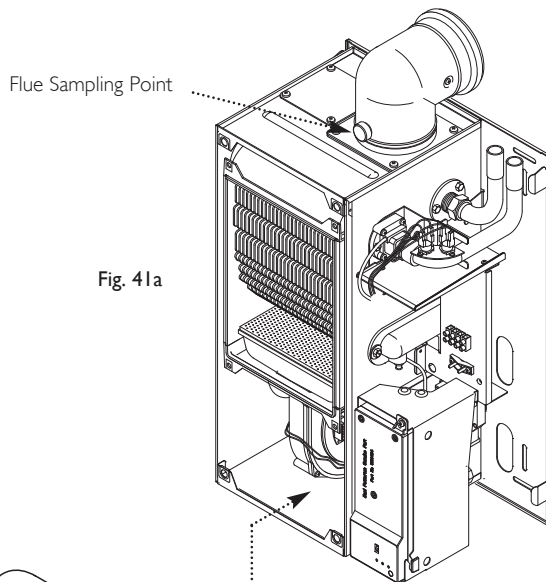

Fig. 41a
12. Check the CO/CO2 ratio and CO2 level at the flue sampling point (Fig.41a) as is quoted in Section 4.0, 'Technical Data'.
11. Check the CO/CO2 ratio and CO2 level at the flue sampling point (Fig.41a) is as quoted in Section 4.0, 'Technical Data'.